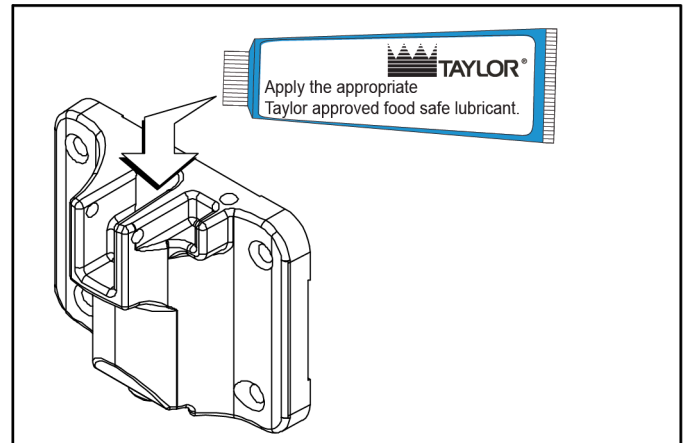

Figure 6-21
11. Lightly lubricate inside the top of the freezer door valve cavity. (See Figure 6-21.)